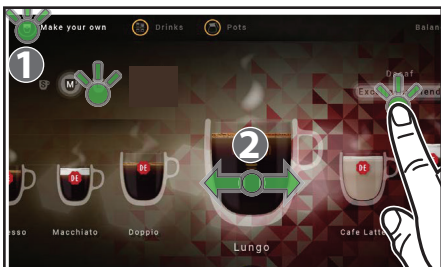

Fig. 4.5 - Choices of "Make your own"
1. Tap on the upper left icon "Make your own" (1) on the touch screen, when the dispenser is in delivery mode (fig. 4.5).
- **THE REQUESTED DRINK (2)** - move the drink of your choice to the center of the screen (fig. 4.5)
- **DRINK SIZE** - tap on S(mall), M(edium), or L(arge) (fig. 4.5)
- **INGREDIENTS** - blend selection can be used in specific dispenser configurations with two coffee blends. (fig. 4.5)